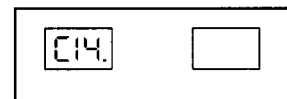

Fig. 28
- Press and hold the 'C' key and rotate adaptor shaft until 'C14' is displayed (Fig. 28).